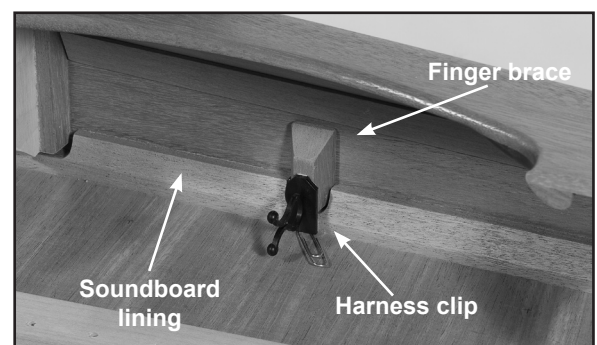

Figure 5 – FH36S Clip Location
2. **For FH36S only:** You will install three clips on the small finger braces running perpendicular to the soundboard lining (see figure 5).